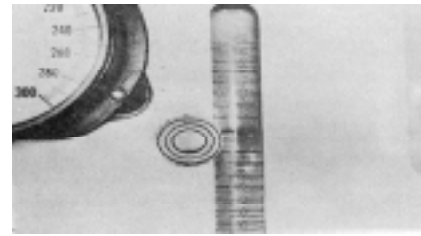

Fig. 6-1-75, F60129. Measuring fuel in vial
11. During test stand operation, the operator starts a test cycle which diverts fuel to the vial so the amount of fuel being injected can be measured. Fig. 6-1-75.